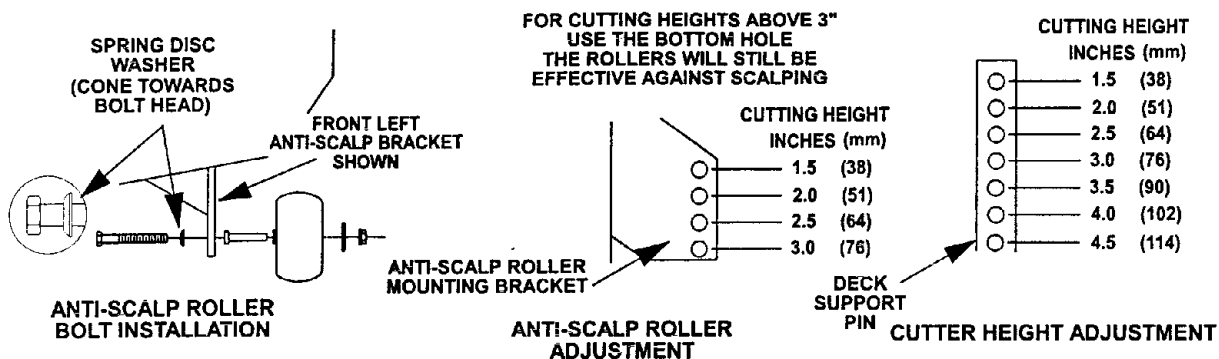

FIG 10
- a) Install hairpin clips in the holes shown on sketch below for the desired cutting height (See Figure 10).
- b) For maximum deck flotation, rollers should maintain 1/4 in. (6.4 mm) clearance to ground. **Do Not** adjust rollers to support the deck. Be sure roller bolts and nuts are installed with the spring disc washer between head of the bolt and mounting bracket (See Figure 10). **Torque to 40-45 ft-lbs., or loss of roller may result.**
- c) When operating in extremely rough conditions it may be necessary to position the anti-scalp rollers one or two holes higher than described in "b" to prevent damage to the rollers and/or bolt failure (See Figure 10).